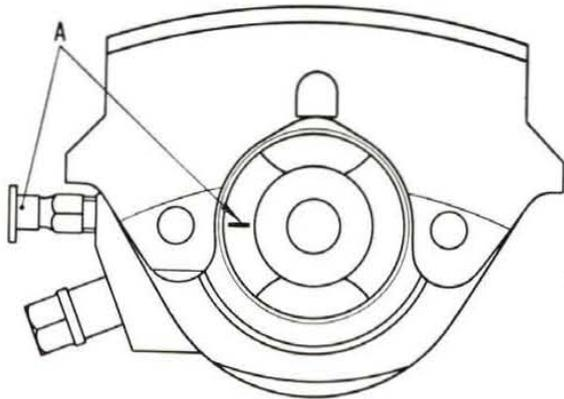

Fig. 452 - Disc brake caliper diagram.
— push the piston to the bottom of the cylinder bore (force required, 121 lbs - 55 kg) and check that the datum mark (A, fig. 452) on the piston is facing the bleeder screw.
**NOTE** - The datum «A» must necessarily be located so as to be in line with the bleeder screw (as shown in figure 452).
When fitting pistons into calipers, make sure that datum A (fig. 452) faces the bleeder screw and the gap between opposite lining pads is not lesser than .429" (10.9 mm).